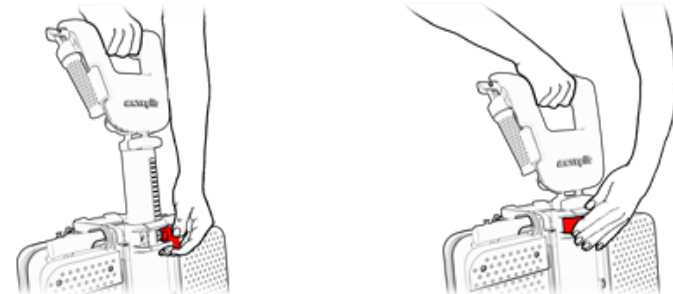

Figure 44
7. Pull the rod height lever (see Figure 44, step 1) to adjust the height of the handlebar to the lowest position and bring the lever back to the secure position (see Figure 44, step 2).